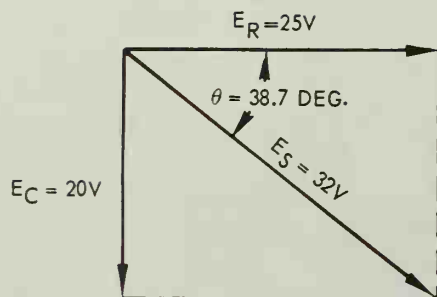

Fig. 9-23. The vector sum of the voltages will equal the supply voltage.
They must be added vectorially because they are 90 deg. out of phase. Refer to Fig. 9-23.
7. Prove that vector addition of voltages does equal the source voltage. Refer to Fig. 9-23.